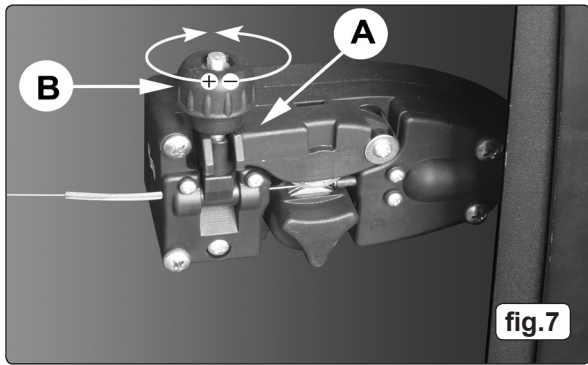

fig.7
- 3.4.5. Referring to fig.7, move the pressure roller moulding (A) back round onto the grooved drive wheel and swing the wire lock screw (B) up to lock it in place. See 3.5.2 regarding wire tension.
- 3.6.1. For mild steel 0.6mm wire the wire tension screw must be fully tightened and undone approximately two complete turns (fig.7).